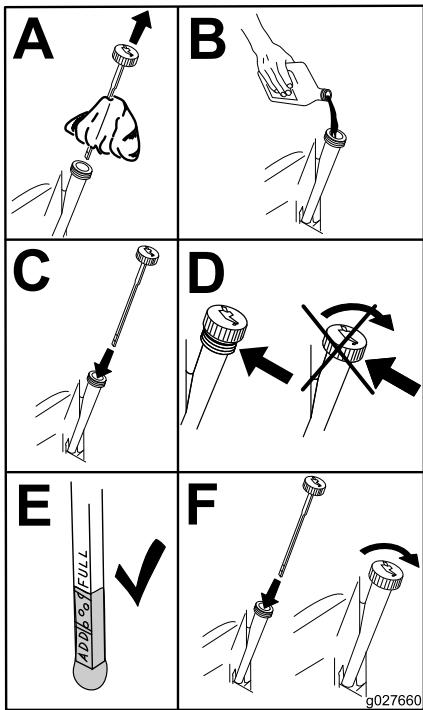

Figure 51
4. Slowly pour approximately 80% of the specified oil into the filler tube and slowly add the additional oil to bring it to the **Full** mark (Figure 51).